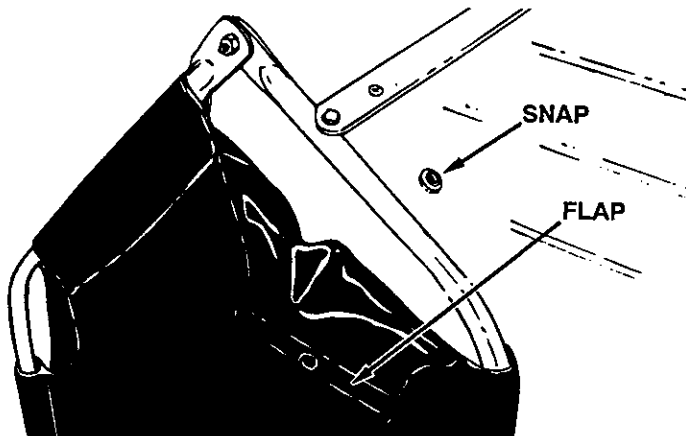

FIGURE 14
- Secure the bag corners over the lower hopper tube by snapping the flap to the bag bottom on both sides. See figure 14.